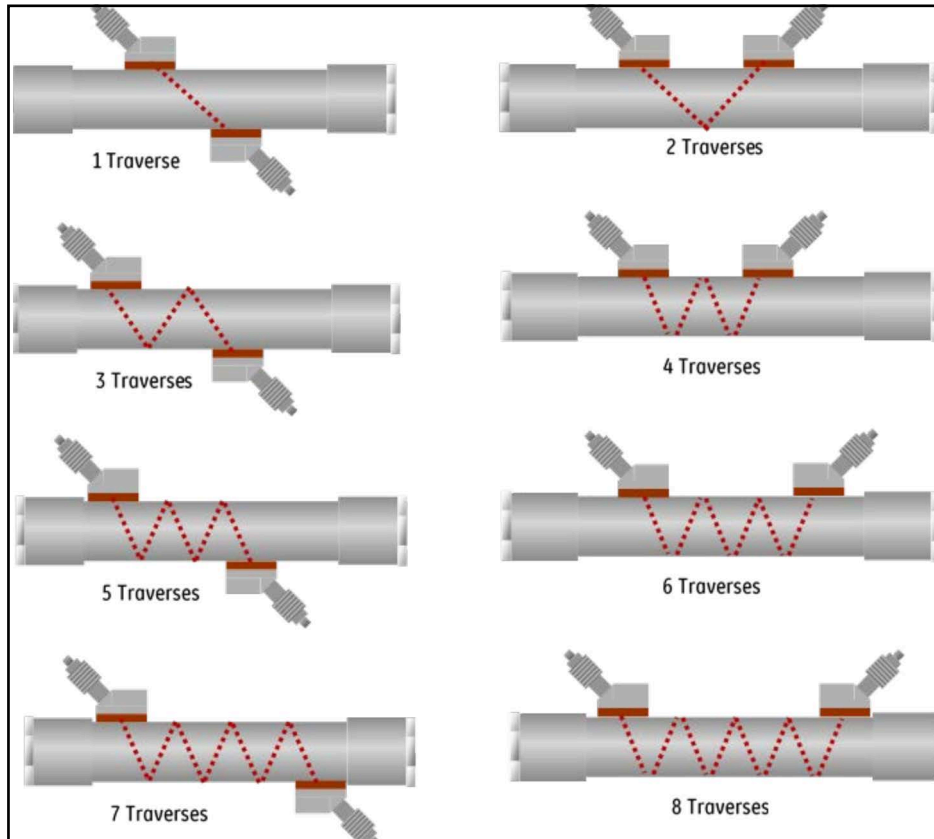

Figure 48: Traverse Configurations
2. Program the **[No. of Traverses]** based on your transducer installation and transducer configuration. Refer to *Figure 48* for possible Traverse configurations supported in the meter. Typically, a two-traverse installation is used.